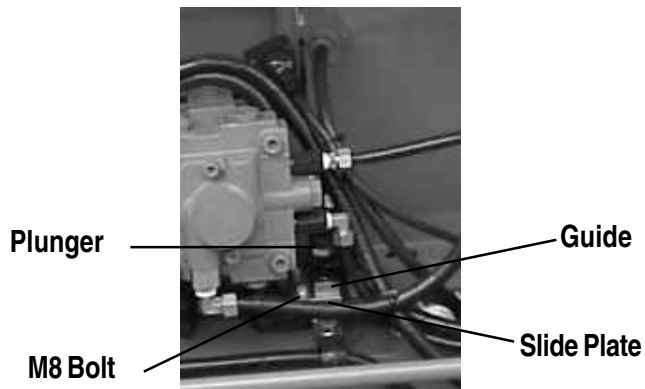

Figure 27. Battery Connection
1. When removing cable, disconnect the ground side (normally negative) first (Figure 27).